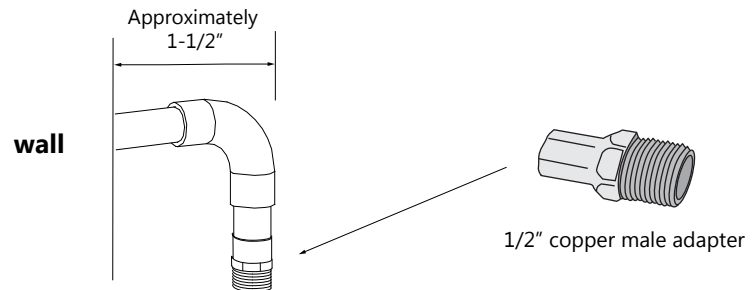

Fig 1
1. The stub-outs for the shower panel should be 1/2" copper pipe, angled down with 90-degree elbows, extending approximately 1-1/2" from the wall, with 1/2" male threaded adapters on the ends. This will make attachment of the unit's supply lines easier and allow the unit to sit flush against the wall. Please note the rear opening width of the shower panel unit and be sure your stub-outs are close enough together and at the proper height for easy installation. If this unit is a replacement, make sure all unnecessary wall openings are closed prior to installation. **(Fig 1)**